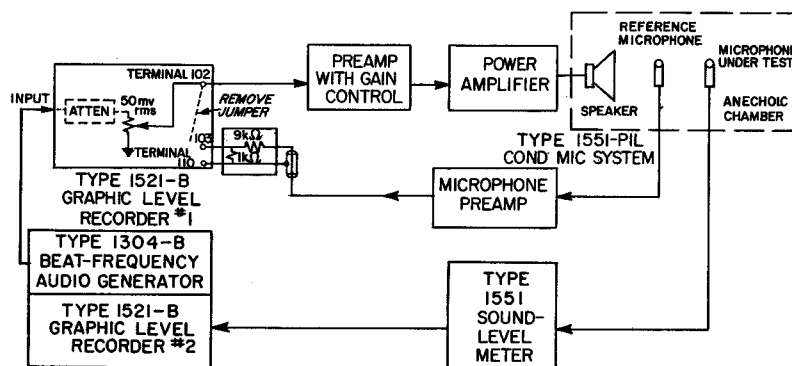

Figure 5.11. Setup for microphone calibration.
The setup for measurement is shown in Figure 5.11 and the equipment is described in Table 5.4. In order to appreciate how the recorder servo controls the sound-pressure level, reread paragraph 1.2. The recorder servo keeps the input to the ac amplifier at a constant level (1 mv when calibrated). When the level changes, the drive coil moves the potentiometer arm until the voltage is again at this level. If the servo loop is broken be-
Type 1521-B Graphic Level Recorder	Recorder No. 1 in Figure 5.11, with 20- or 40-db potentiometer.
Type 1551-P1L Condenser Microphone System	Reference microphone and preamplifier shown in Figure 5.11.
tween the potentiometer arm and the ac amplifier, and two transducers are inserted as shown in Figure 5.11, the servo system will still maintain the constant level into the ac amplifier. Thus the action is as follows:
- b. Connect the system as shown in Figure 5.11, using the equipment described in Table 5.4. Shielded leads should be used, except from the power-amplifier output to the loudspeaker.